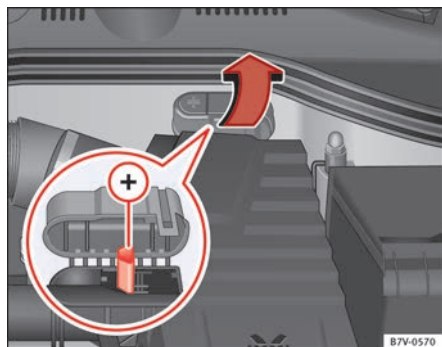
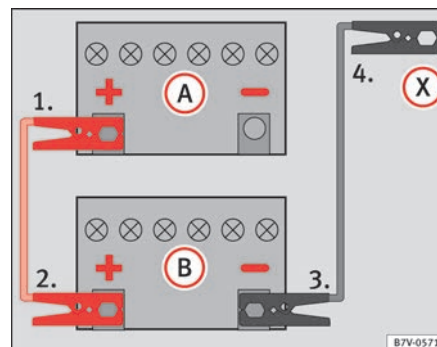

Fig. 215 In the engine compartment: positive pole for starting assistance (+).
Fig. 216 Jump lead connection diagram when the assistance vehicle does not have a Start-Stop system: flat battery (A) and battery supplying current (B).
- Likewise, open the battery cover in the engine compartment ⇒ page 288, or remove the positive pole cap from one side1), in the direction of the arrow ⇒ fig. 215.
- Connect one end of the *red* jump lead to the positive terminal ⇒ fig. 216 (+) or ⇒ fig. 215 (+) of the vehicle with the flat battery (A) ⇒ ⚠.
- Connect the other end of the *red* jump lead to the positive terminal (+) in the vehicle providing assistance (B).
- For vehicles **without Start-Stop system**: Connect one end of the *black* jump lead to the negative terminal (-) in the vehicle providing assistance (B) ⇒ fig. 216.